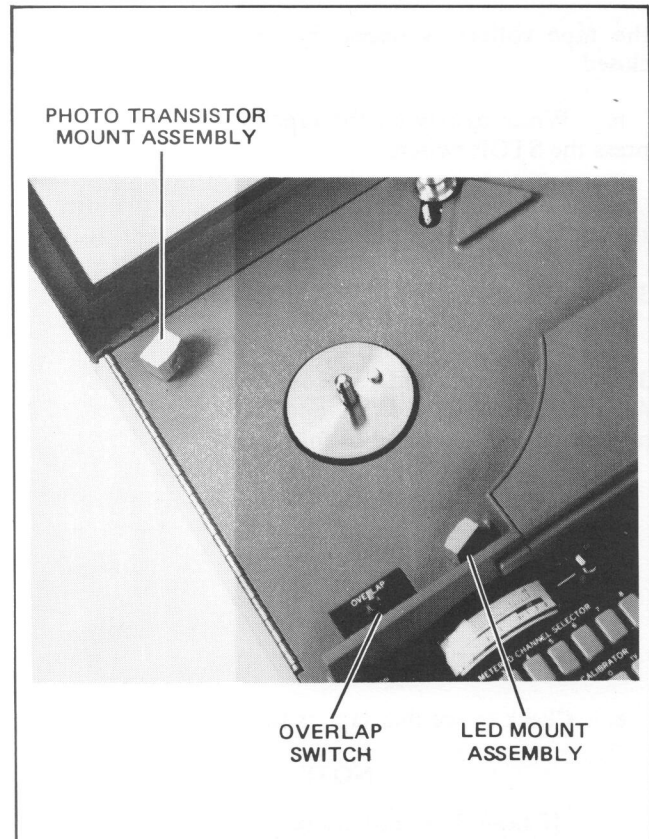

Figure 3-13. Overlap Control Location
l. Set the OVERLAP switch to REWIND, STOP, or OFF as desired (see Figure 3-13).